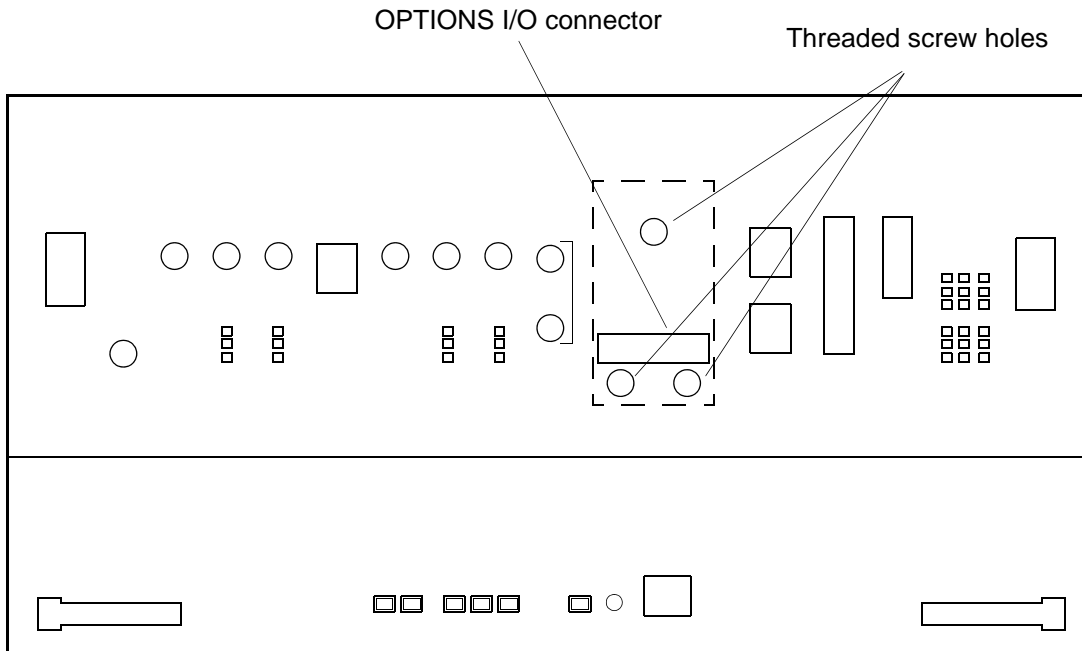

Figure 3-13. Options I/O Connector
2. Plug the module into the OPTIONS I/O connector on the connector panel (refer to Figure 3-13).